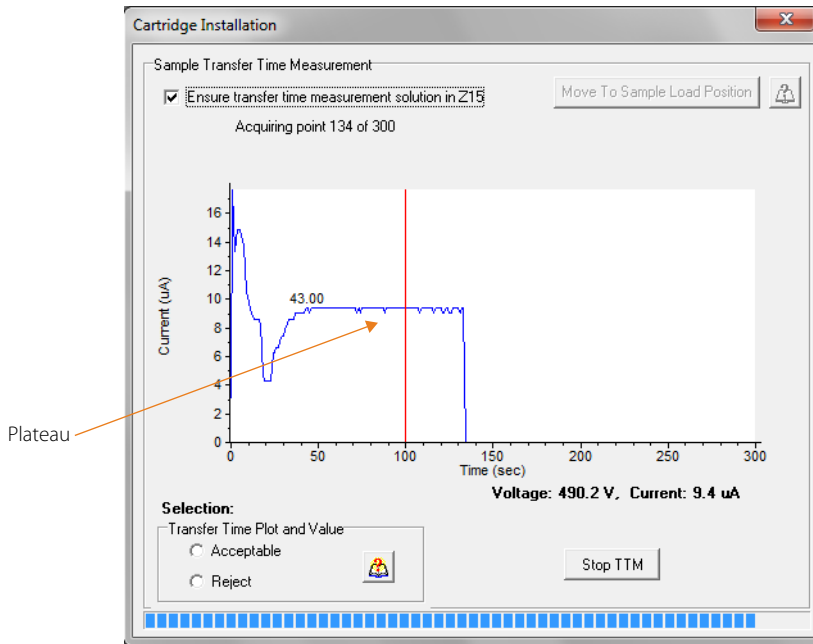

Figure 5-18: Example transfer time plot.
- **1000 mBar injection pressures** - An acceptable transfer time plot has the following characteristics as shown in Figure 5-18: